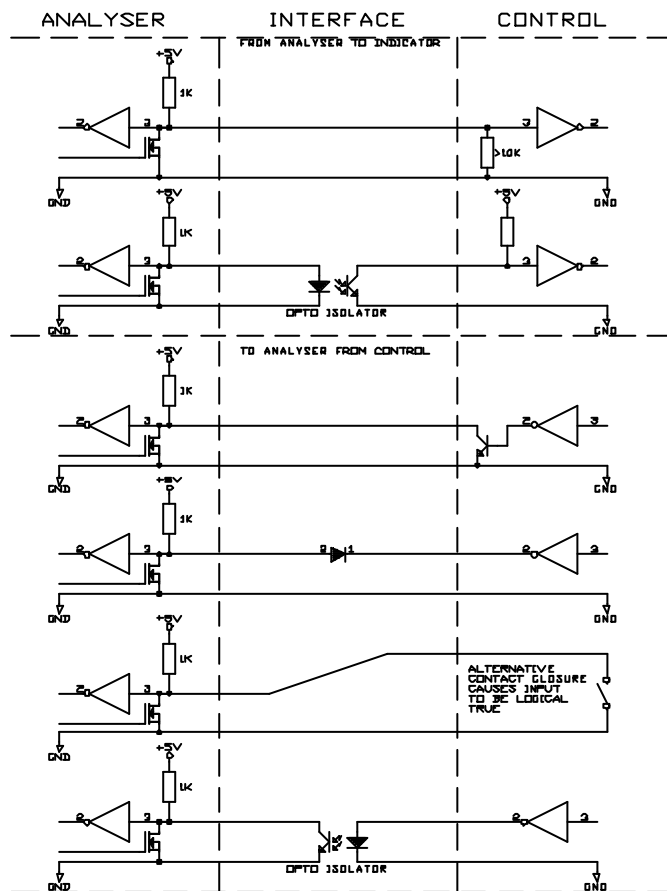

Figure 5 Typical Remote Logic Connections
- 3.7.3 Typical connections for switch, logic, and isolated logic are given in Figure 5 on page 18. The grounded switch method of control is useful where the analyser must be placed in a different area from the control and where only manual control is required. Computer or process controllers should use the direct or isolated method of operation. Isolated connections should be used if the analyser is in an electrically noisy environment, with the analyser some distance from the controlling logic, and where the controlling logic is connected to the local earth.